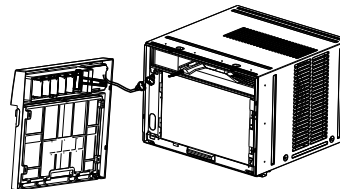

FIG. 4
6. Disconnect the control board plug and place front panel to the side. (See Fig. 4.)